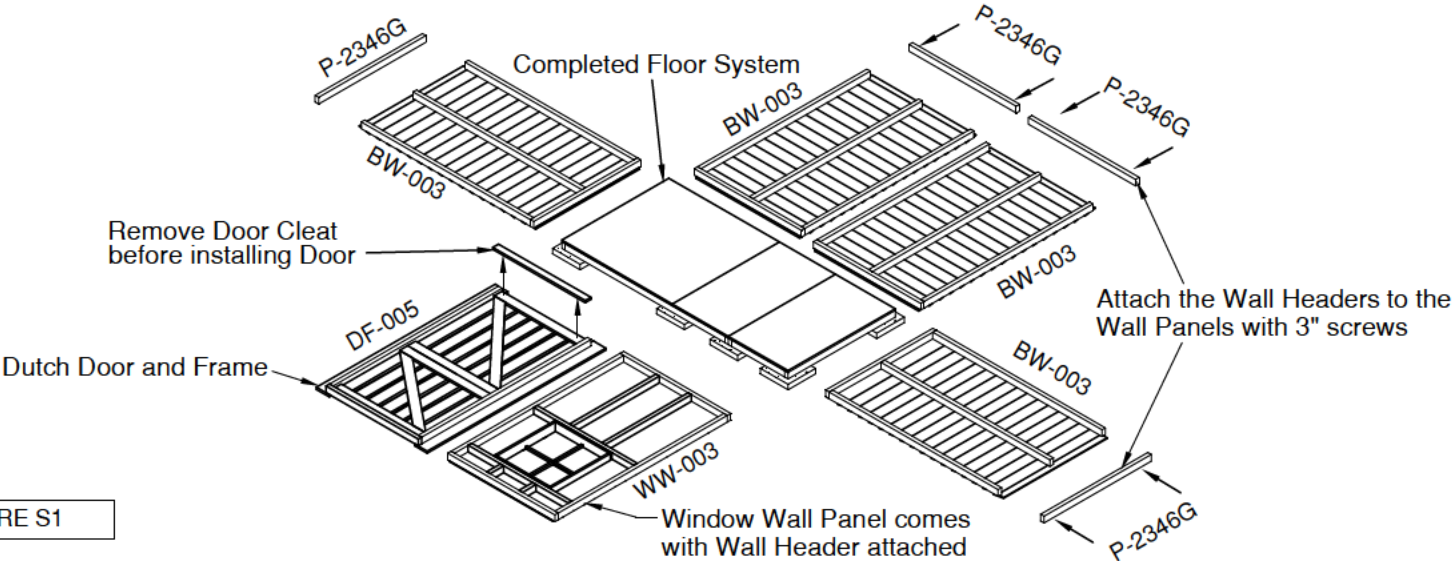

FIGURE S1
- Layout all wall and door panels flat on the ground around the completed floor system as shown (FIGURE S1).